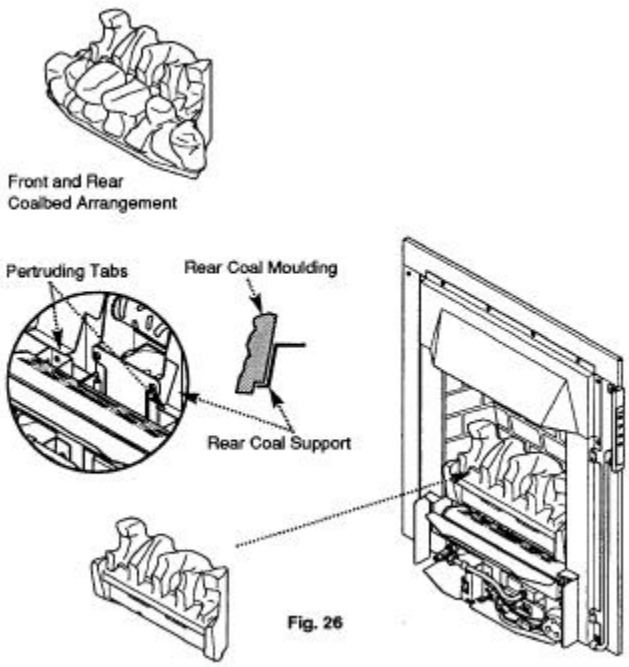

Fig. 26
1. Carefully position the rear coal moulding into the rear of the fire. The undercut in the base of the moulding should rest on the protruding tabs of the rear coal support. The back face of the moulding should come to rest on the front face of the rear coal support and shall be centrally positioned (Fig. 26). Care should be taken that the rear coal moulding does not fall forward at this stage.